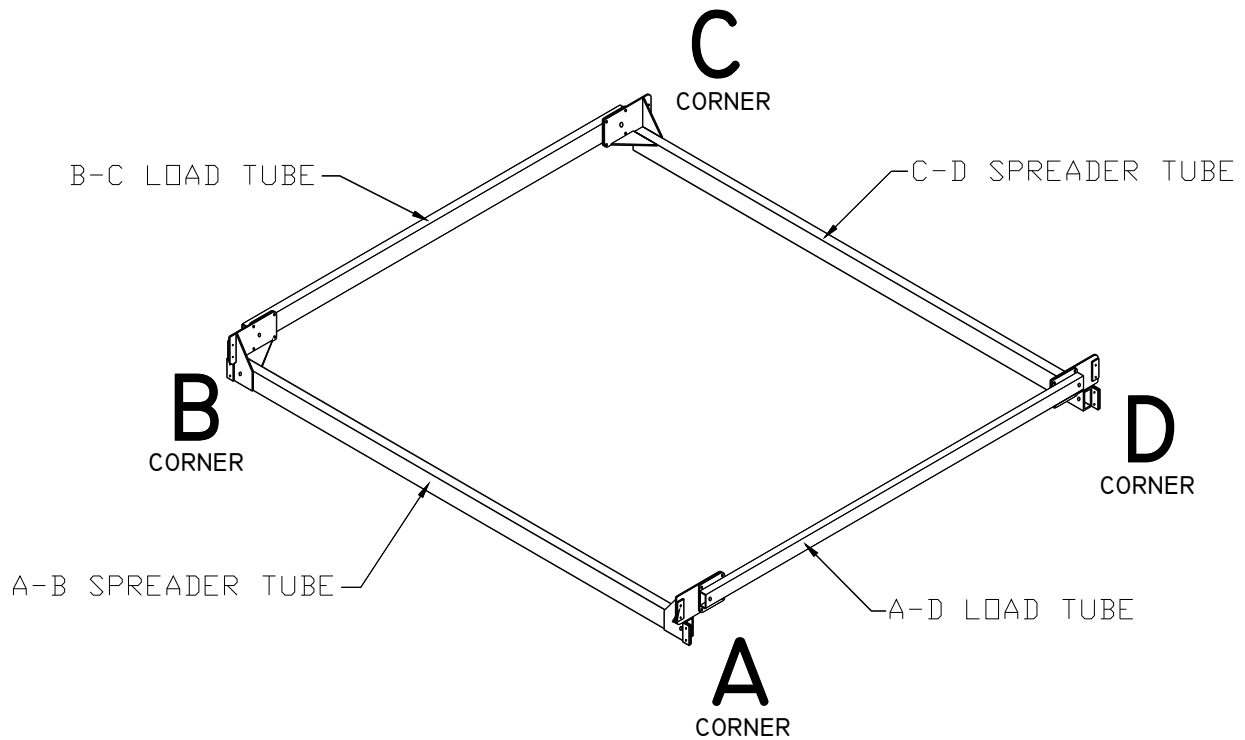

Figure 3-3
1. Refer to Figure 3-3. Disconnect all cables from the top and bottom of each leg.